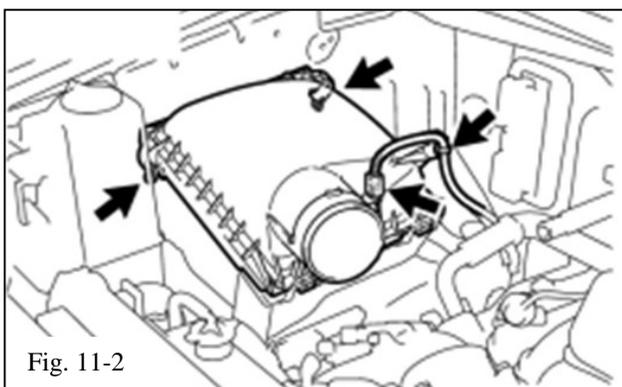

Fig. 11-2
- (1) Disconnect the mass airflow (MAF) meter connector (Fig. 11-2).
- (2) Use a clip removal tool to detach the wire harness clamp.
- (3) Unfasten the 4 hook clamps (Fig. 11-2).